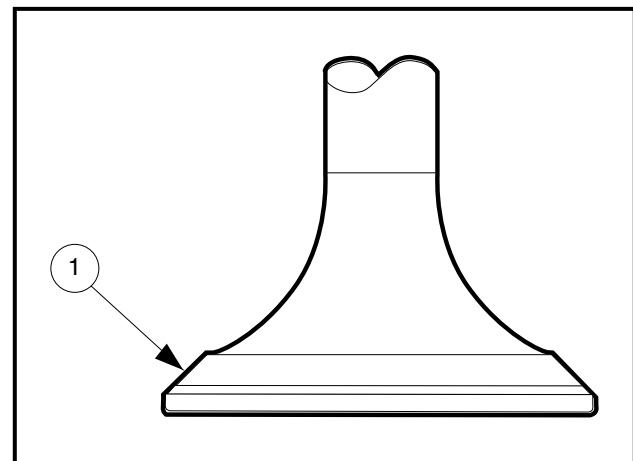

Figure 13-28 Valve Head Seating Area
1. Inspect the valve head seating area (1) for erosion, nicks and warping, etc. (**Figure 13-28, Page 13-16**). See following **NOTE**.